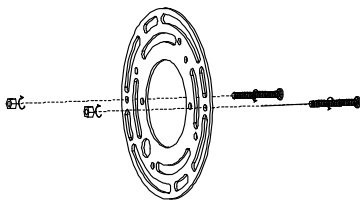

Fig 1
1. Align the screws and nuts with the holes on the Mounting Plate, tighten the screws and control the protruding length. (Fig 1)